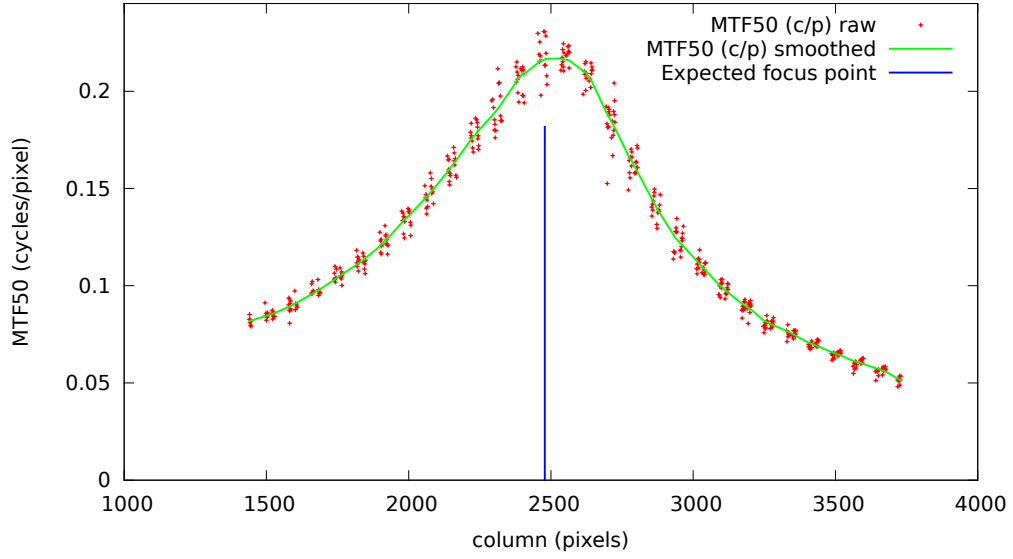

Figure 17: Example of profile generated by MTF mapper.
Using the **perspective** test chart illustrated in Section 4.2.1, the program will construct a profile such as the one shown in Figure 17. The chart should be photographed at a 45° angle, preferably at the specified distance for that chart size. Each chart is optimised for a specific viewing distance to counter the effects of perspective distortion, and the chart should be tilted such that the ‘big end’ of the chart is the one that is further away from the camera.
A complete profile in its usual orientation is shown in Figure 17. The red dots represent individual MTF50 measurements, and the green curve is merely a smoothed representation of the same data.
10. Feed the captured image through MTF mapper to produce a profile (such as illustrated in Figure 17. The vertical blue line denotes the position of the autofocus reference edge (at least, the one you should have been using to focus ...). The green curve (or red points) records the MTF50 values measured along the long axis of the image. Since the test chart was at a 45° angle with respect to the lens axis, the long axis of the image is a measure of the distance from the camera. MTF50 values measured at different x -values (in the Figure 17) thus indicate the sharpness, or degree of focus, at that specific distance from the camera. The peak of the green curve represents the plane of focus — the objective is to line up the peak of the green curve with the blue vertical line.